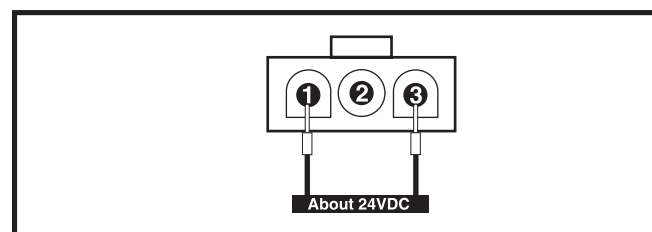
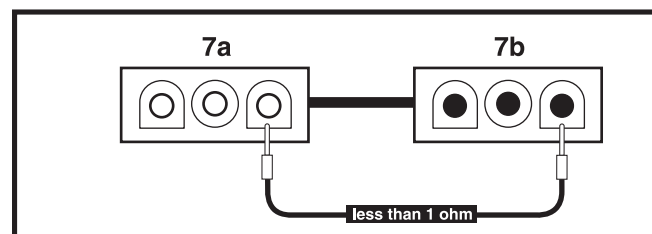

Figure 21. Connector 7b
Figure 22. Connectors 7a and 7b
26. Measure voltage across pin 1 and pin 3 on connector 7b. **See figure 21.**
- If your multimeter indicates total battery voltage (about 24VDC), then replace the onboard battery charger (6) and retest the system.
28. Measure resistance across pin 3 on connector 7a and pin 3 on connector 7b. **See figure 22.**
- If your multimeter indicates less than 1 ohm, then replace the charger/joystick interface harness (3) and retest the system.
29. Verify that the charger harness (7) is connected to the fuse (7c) and ammeter (7f) properly.
- If your multimeter indicates less than 1 ohm, then replace the charger interface harness (7) and retest the system.